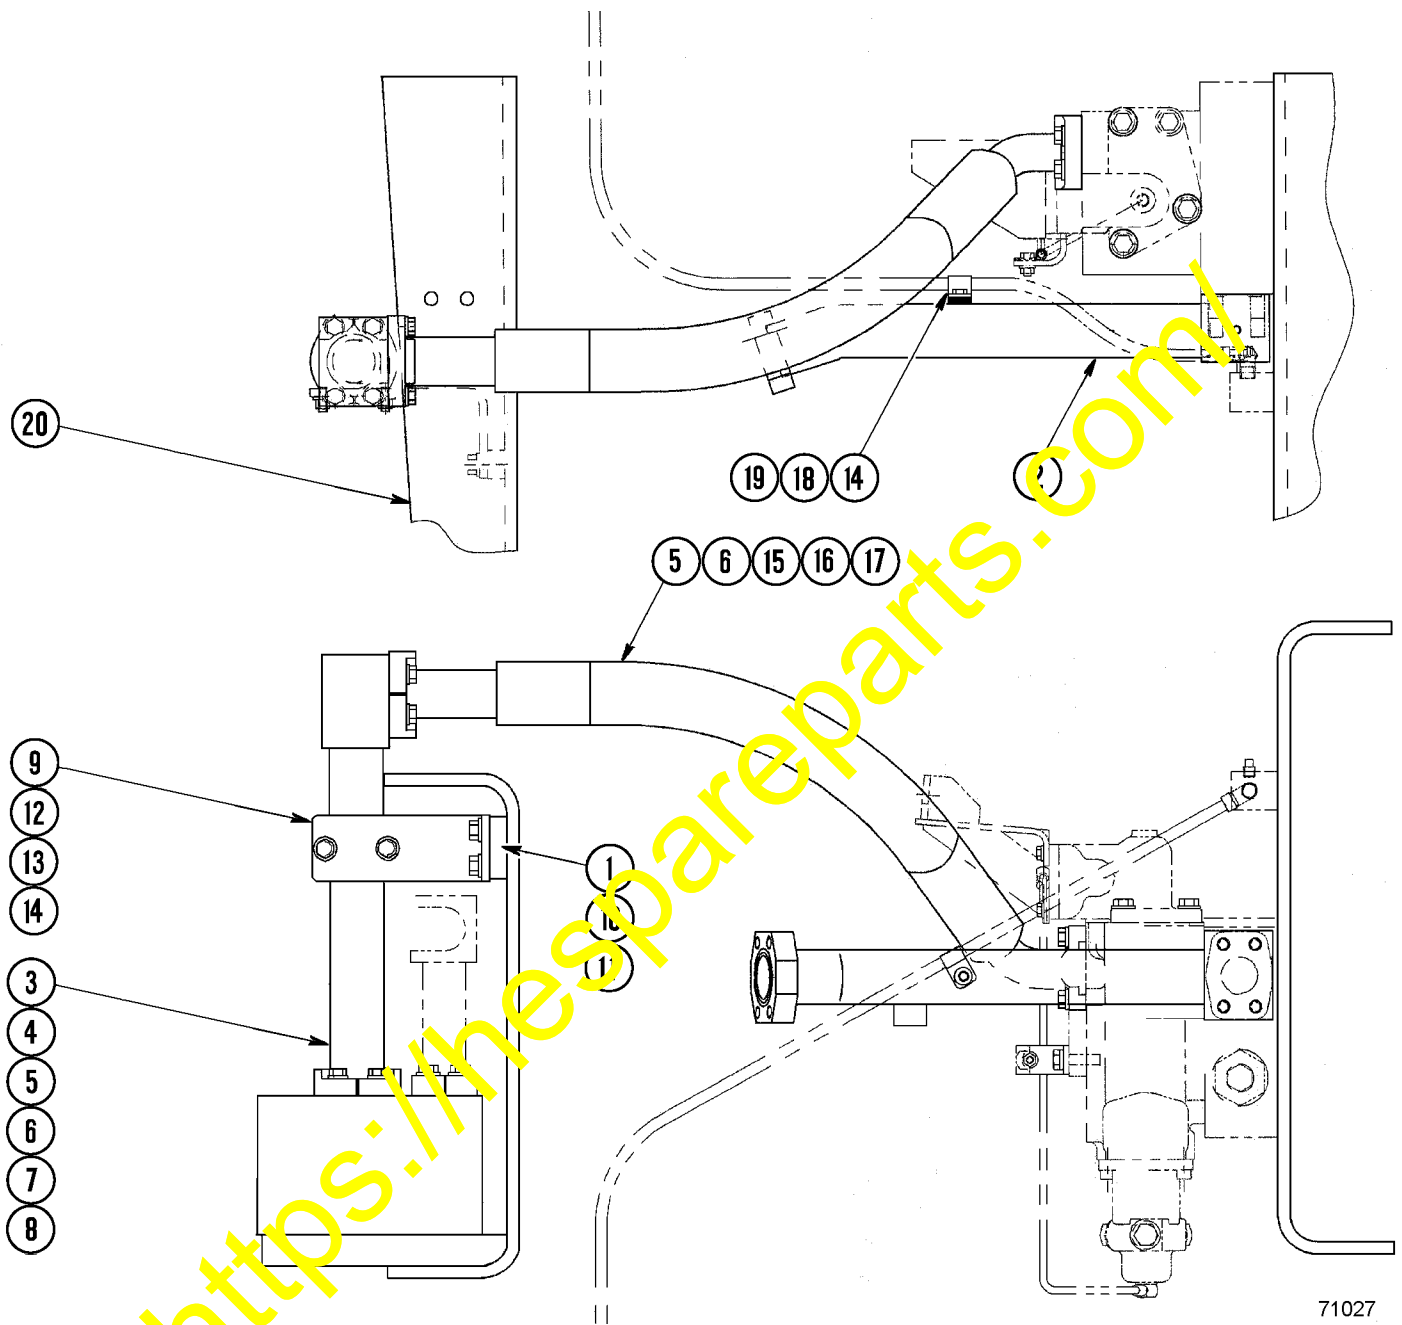

FIGURE 3. NEW PIPING INSTALLATION (KIT XK0251)
4. Install new components (1-19, Figure 3) from kit as shown in Figure 3. Be sure that hose (15) is routed so there is no interference with other parts that could rub a hole in the hose.